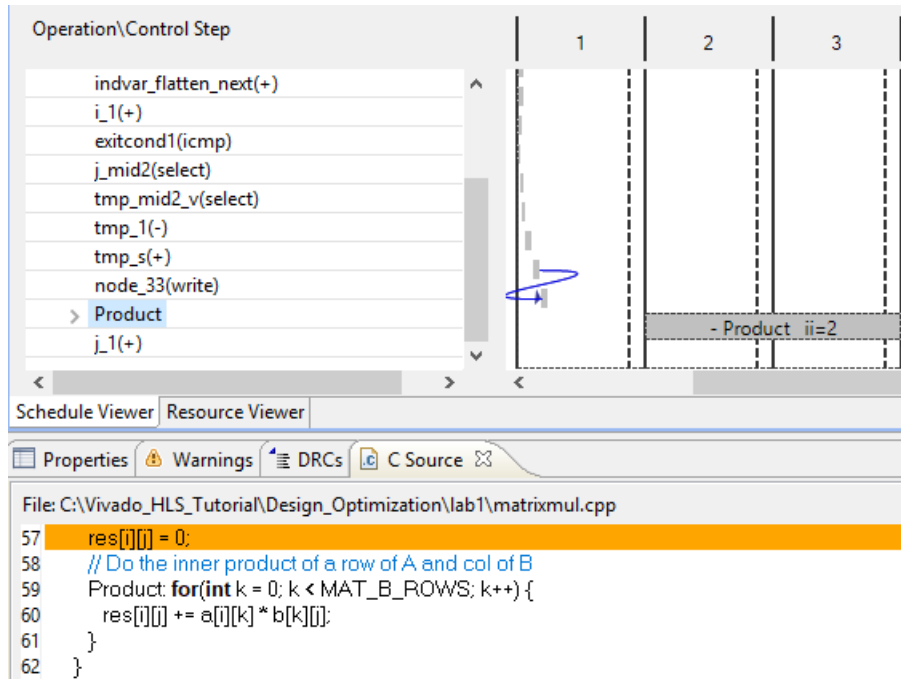

Figure 7-7: Matrixmul Initial Schedule Viewer
9. Right-click and select **Goto Source** to see the view in Figure 7-7.